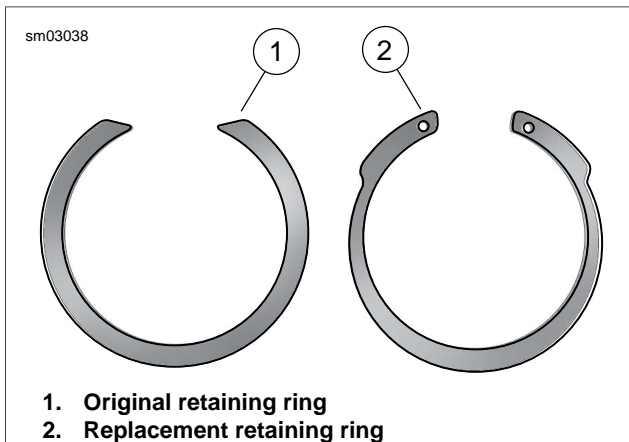

Figure 7-37. Main Drive Gear Retaining Rings
- See Figure 7-37. When replacing needle bearings, discard original retaining rings (1) and install replacement retaining rings (2).